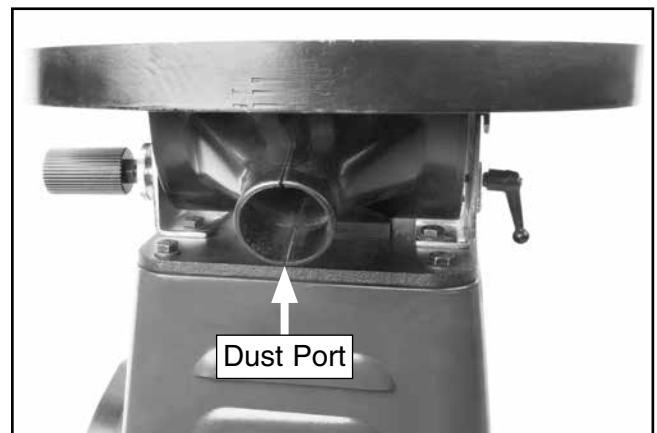

Figure 11. Dust port.
1. Fit a 2" dust hose over dust port shown in **Figure 11**, and secure in place with a hose clamp.